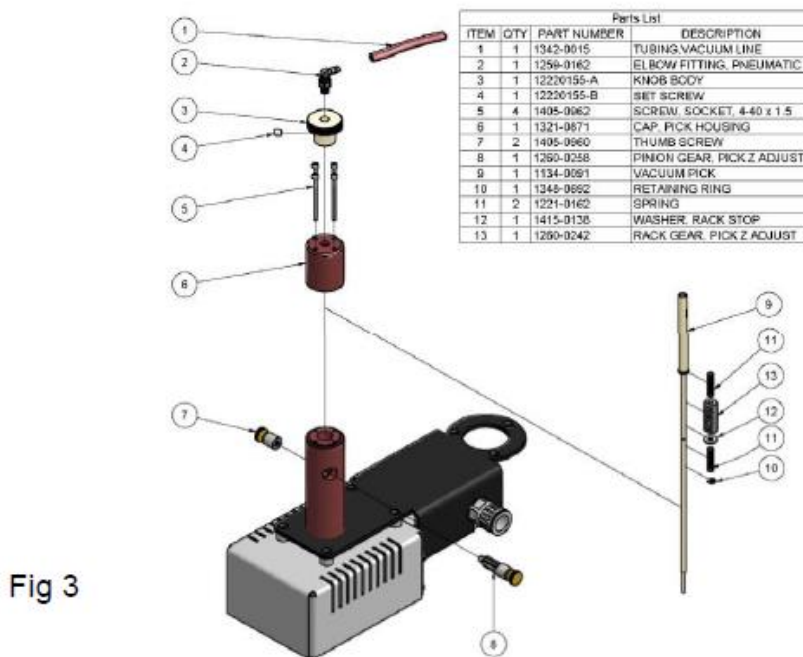

Fig 3
14. Vacuum pick replacement. (Reference Figure 3)